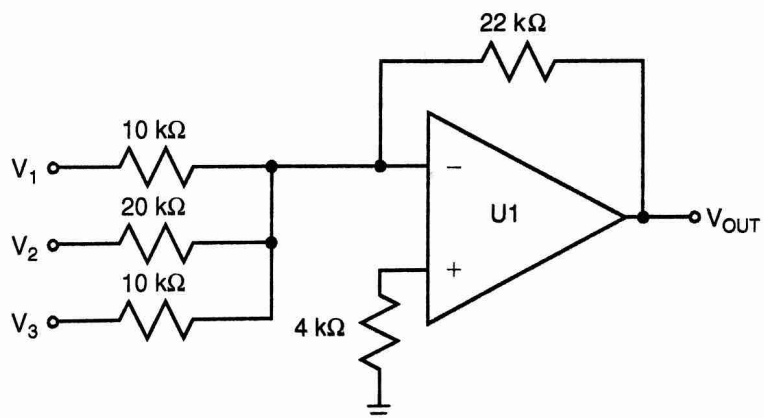

FIGURE 4-47 Op-amp circuit for Problems 5 and 6
5. Calculate the output voltage of the summing amplifier circuit in Figure 4-47 with $V_1 = -1.2$ V, $V_2 = +0.5$ V, and $V_3 = -2.8$ V.